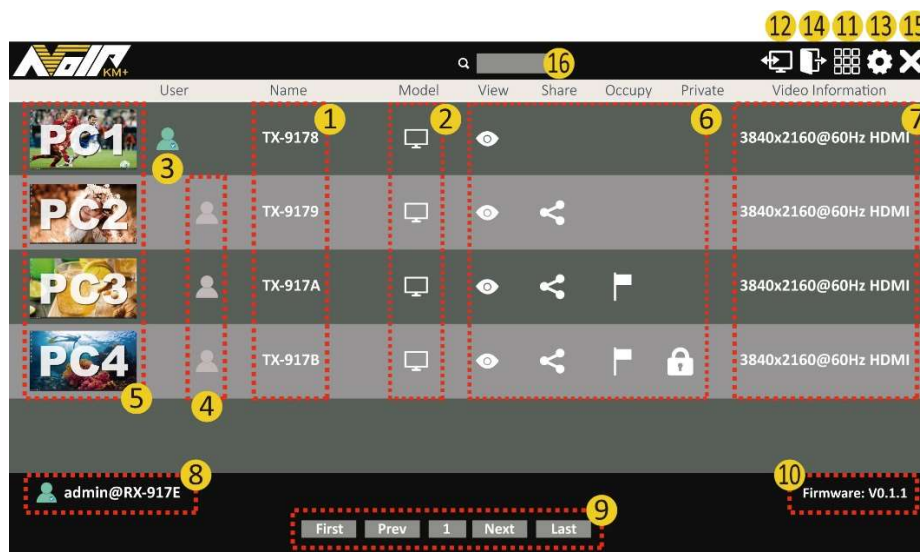
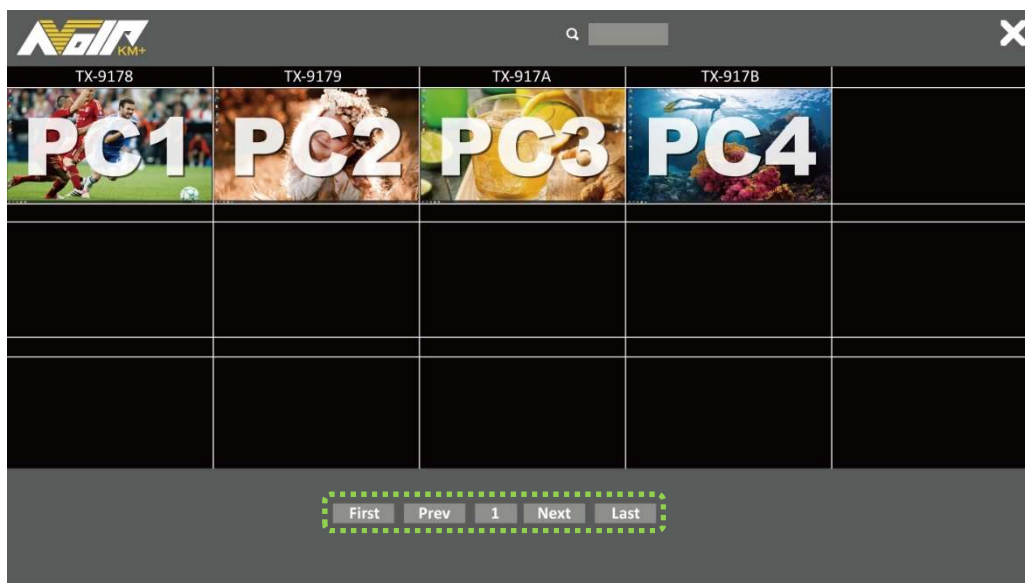
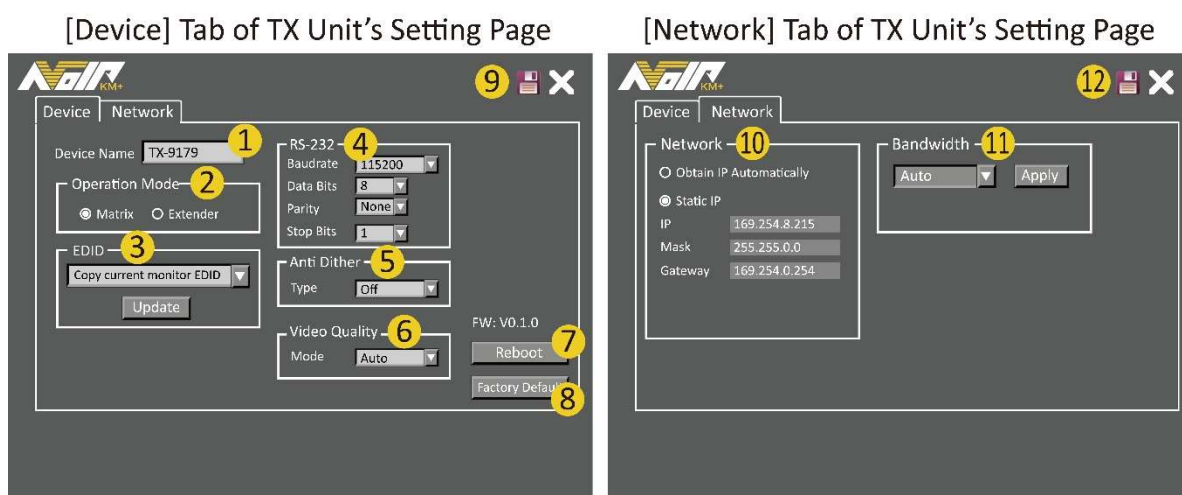

Figure 8-6 RX Unit's OSD Menu with HX-143AVC's Management
Figure 8-7 Video Thumbnail Preview Page of All Connected TX units
Figure 8-15 [Device] and [Network] Tabs of the TX unit's Setting Page
When an HX-143AVC controller and all TX and RX units are deployed in the same AV NETWORK, all the TX and RX units will be automatically managed by the HX-143AVC controller. Press <ScrLk>, <ScrLk>, <Space> on an RX unit's keyboard to bring up its OSD menu. Log in to the RX unit (e.g., RX-917E) with the user credential (e.g., **admin**) as shown in Figure 8-6.
- (1) Double click on any transmitter name to connect it to the operating receiver (e.g., **RX-917E**).
- (2) The screen icon has three forms, each representing a different status: Normal Operation (white), Power Supply or Link Failure (black with a red X), and Video Lost (black).
- (3) The green user icon represents that the operating RX unit (e.g., **RX-917E**) is connected to a TX unit (e.g., **TX-917B**).
- (4) Grey user icons represent that other RX units are connecting to their respective TX units (e.g., **TX-9179**, **TX-917A**, and **TX-917B**).
- (5) The video thumbnails of all corresponding TX units. Double-click on any of them to connect to this operating RX unit.
- (6) The available access levels of all corresponding TX units for the currently logged-in user include **[View]**, **[Share]**, **[Occupy]**, and **[Private]**. Double-click any icon of them to connect the operating RX unit to the selected TX unit with the specified access level.
- (7) The video resolutions of all the corresponding TX units.
- (8) The name of the logged-in user account (e.g., **admin**) and this operating RX unit (e.g., **RX-917E**).
- (9) Users can click these navigation buttons to go through the TX list page-by-page.
- (10) The firmware version information.
- (11) Click to open a preview page showing all video thumbnails of all connected TX units as Figure 8-7 shows.
Figure 8-7 shows the Video Thumbnail Preview Page of all connected TX units. Click the icon  to open it and use the navigation buttons to preview them page-by-page.
- (2) The screen icon has three forms, each representing a different status: Normal Operation (white), Power Supply or Link Failure (black with a red X), and Video Lost (black). Double-click any of them to enter the transmitter setting page (Referring to Figure 8-15).
- (3) The green user icon represents that the operating RX unit (e.g., **RX-917E**) is connected to a TX unit (e.g., **TX-9178**).
- (6) The video resolutions of all the corresponding TX units.
(7) The name of this operating RX unit (e.g., **RX-917E**).
\*Note: Since the RX unit does not need to go through login process, there will be no user's name displayed here as the item (8) of Figure 8-6.
(8) Users can click these navigation buttons to go through the TX list page-by-page.
(9) The firmware version information.
(10) Click to bring up a preview page showing all video thumbnails of all connected TX units as Figure 8-7 shows.
The annotations of the TX unit's setting pages shown in Figure 8-15 are described as follows: